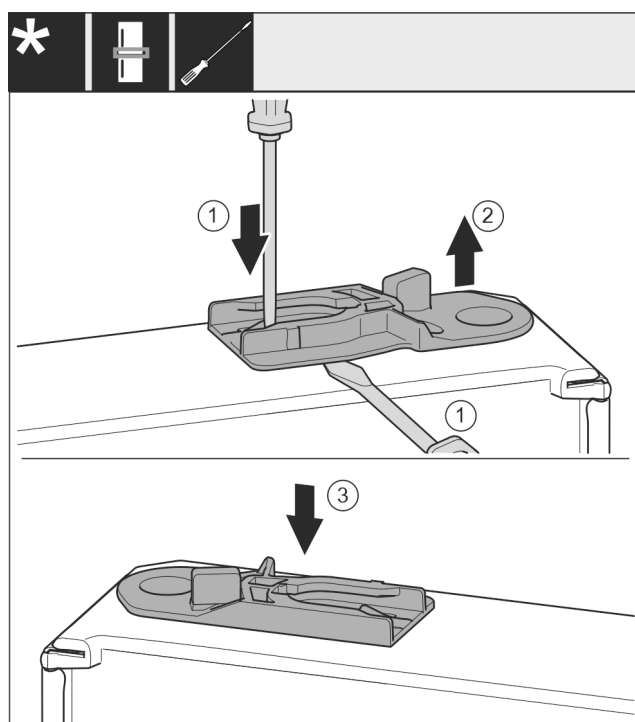

Fig. 34
- Appliances with closing damper: Pull out the guide bush: Press the tab Fig. 34 (1) with a flat-blade screwdriver and at the same time move the flat-blade screwdriver under the guide bush Fig. 34 (2).
- Appliances with closing damper: Insert the guide bush Fig. 34 (3) supplied on the other side of the housing.